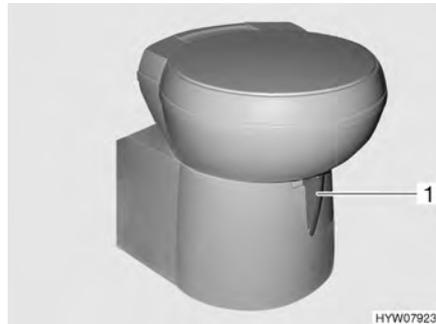

Fig. 191 Thetford toilet bowl, swivelling
- Before flushing open the sliding trap of the Thetford toilet. To do this, push the slide lever (Fig. 191,1) in an anticlockwise direction.
- Push the slide lever (Fig. 191,1) in a clockwise direction. The sliding trap is closed. To empty, the sliding trap of the Thetford toilet **must** be closed.